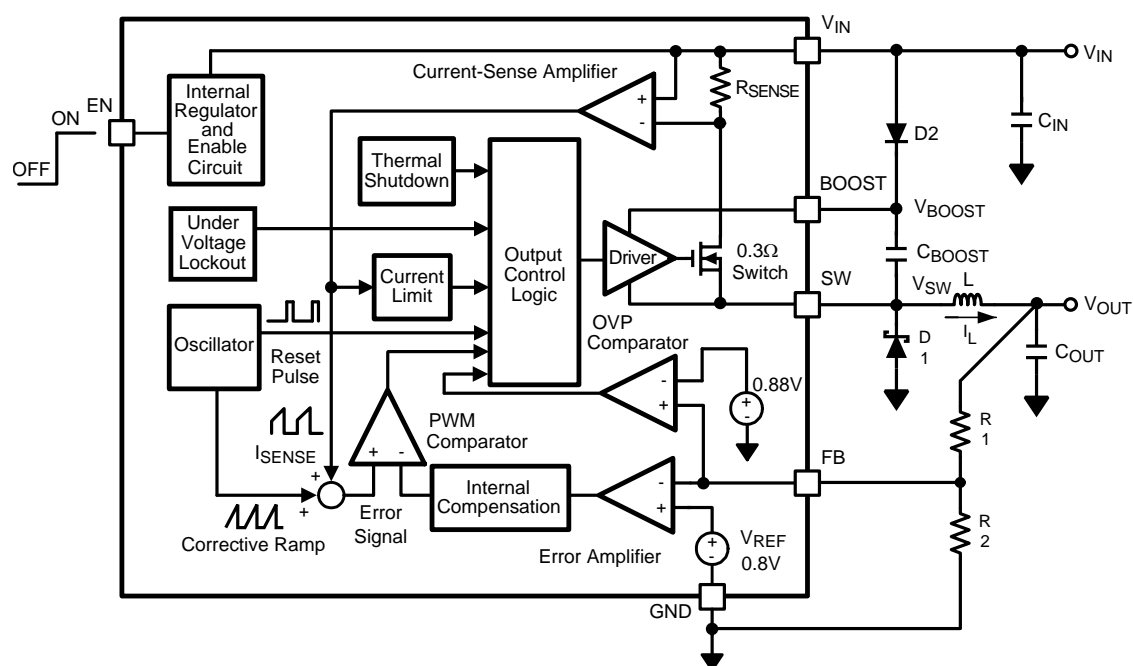

Figure 22.
The following operating description of the LM2734 will refer to the Simplified Block Diagram (Figure 22) and to the waveforms in Figure 23. The LM2734 supplies a regulated output voltage by switching the internal NMOS control switch at constant frequency and variable duty cycle. A switching cycle begins at the falling edge of the reset pulse generated by the internal oscillator. When this pulse goes low, the output control logic turns on the internal NMOS control switch. During this on-time, the SW pin voltage ( $V_{SW}$ ) swings up to approximately  $V_{IN}$ , and the inductor current ( $I_L$ ) increases with a linear slope.  $I_L$  is measured by the current-sense amplifier, which generates an output proportional to the switch current. The sense signal is summed with the regulator's corrective ramp and compared to the error amplifier's output, which is proportional to the difference between the feedback voltage and  $V_{REF}$ . When the PWM comparator output goes high, the output switch turns off until the next switching cycle begins. During the switch off-time, inductor current discharges through Schottky diode D1, which forces the SW pin to swing below ground by the forward voltage ( $V_D$ ) of the catch diode. The regulator loop adjusts the duty cycle (D) to maintain a constant output voltage.
In the Simplified Block Diagram of Figure 22, capacitor  $C_{BOOST}$  and diode D2 supply the gate-drive current for the NMOS switch. Capacitor  $C_{BOOST}$  is charged via diode D2 by  $V_{IN}$ . During a normal switching cycle, when the internal NMOS control switch is off ( $T_{OFF}$ ) (refer to Figure 23),  $V_{BOOST}$  equals  $V_{IN}$  minus the forward voltage of D2 ( $V_{FD2}$ ), during which the current in the inductor (L) forward biases the Schottky diode D1 ( $V_{FD1}$ ). Therefore the voltage stored across  $C_{BOOST}$  is